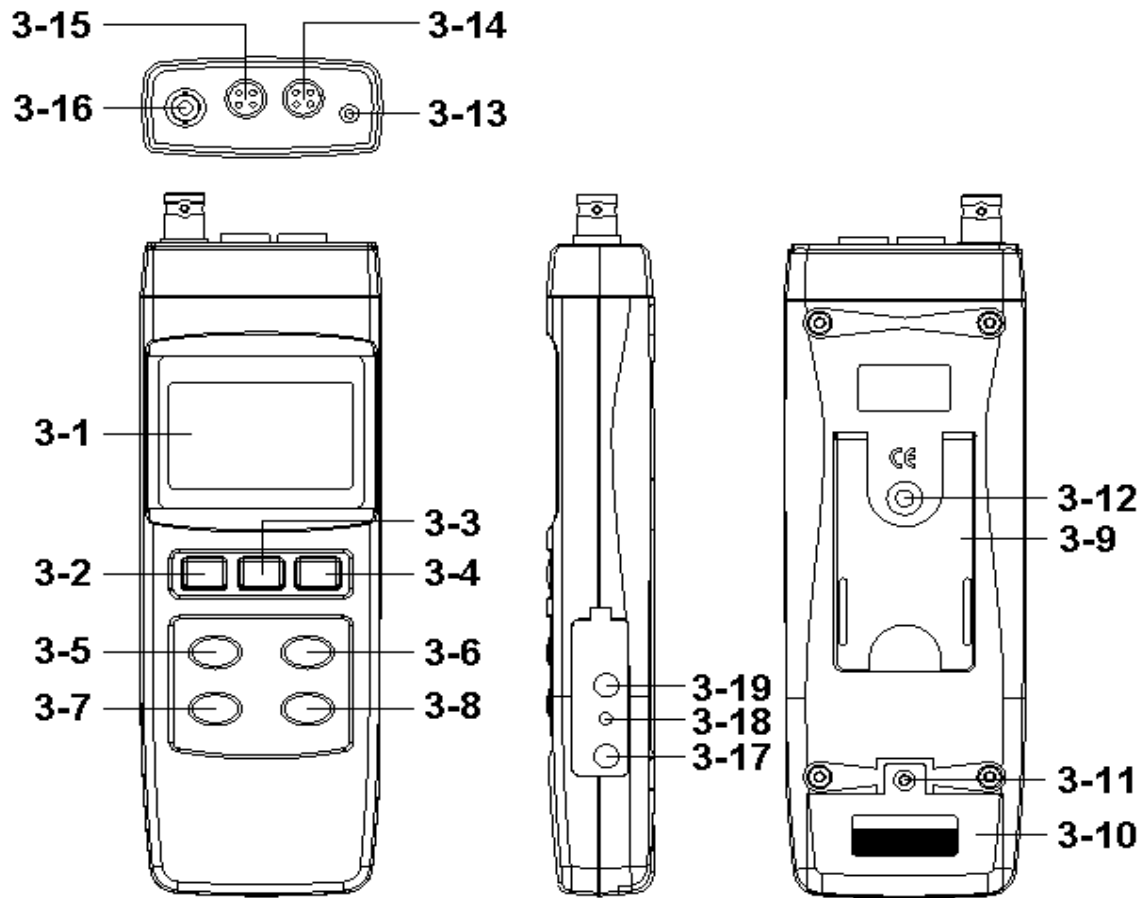
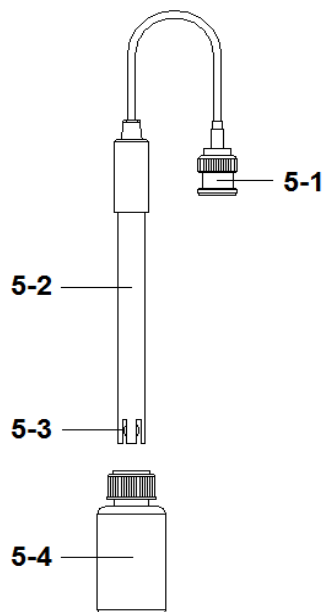

Fig.1
Fig. 2
( 3-2, Fig. 1 ) momentarily.
\* *Pressing the " Power Button " ( 3-2, Fig. 1 )
Use the " Function Button " ( 3-6, Fig. 1 ) Key to select intent test
- 1) Power on the meter by pressing " Power Button " ( 3-2, Fig. 1 ) once.
Use the " Function Button " ( 3-6, Fig. 1 ) Key, select to pH measurement Function.
- 2) Prepare the pH Electrode ( optional ), install the " Probe Plug " ( 5-1, Fig. 2 ) into the " PH Socket/BNC Socket " ( 3-16, Fig. 1 ).
- 4) Hold the " Electrode Handle " ( 5-2, Fig. 2 ) by hand and let the " Sensing head " ( 5-3, Fig. 2 ) immersed wholly into the measured solution and little shake the electrode.
but should prepare one temperature probe ( optional, TP-07 ), insert the TP-07's plug into the " Temp. Socket " ( 3-13, Fig. 1 ), immerse the sensing head of temperature probe ( TP-07 ) into the measurement solution.
**When not use the Electrode, it should immerse the " Electrode sensing head " ( 5-3, Fig. 2 ) into the " Protection bottle " ( 5-4, Fig. 2 )**
- 1) Use the " Function Button " ( 3-6, Fig. 1 ) Key, select to mV ( ORP ) measurement Function.
- 2) Prepare the ORP Electrode ( optional, ORP-14 ), install the " Probe Plug " of ORP electrode into the " PH Socket/BNC Socket " ( 3-16, Fig. 1 ).
- 1) Prepare the pH Electrode ( optional ), install the " Probe Plug " ( 5-1, Fig. 2 ) into the " PH Socket/BNC Socket " ( 3-16, Fig. 1 ).
- 2) Power on the meter by pressing " Power Button " ( 3-2, Fig. 1 ) once.
- 4) Hold the " Electrode Handle " ( 5-2, Fig. 2 ) by hand and let the " Sensing head " ( 5-3, Fig. 2 ) immersed wholly into the measured solution and little shake the probe. Display will show the PH value.
- 5) Use the two fingers to press the " ▲ Button " ( 3-5, Fig 1 ) and " ▼ Button " ( 3-6, Fig. 1 ) at the same time. Until Display will show the following screen then release the both fingers.
- 6) Press the " ▲ Button " ( 3-5, Fig. 1 ) or " ▼ Button " ( 3-6, Fig. 1 ) once in sequence to select the following screen.